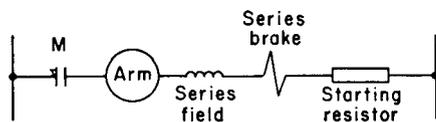
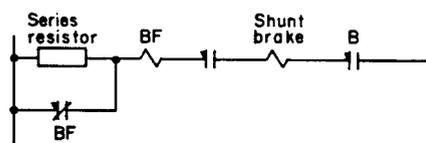

Fig. 6. Connection for series brake
Fig. 9. Forcing connection for fast release
Connect series brakes as shown in Fig. 6.
The connection illustrated in Fig. 6 is one in which the series resistor is always in circuit with the brake coil. A “forcing” connection on the other hand is one in which an additional contactor is used to short out the series resistor during pickup. Such a connection is illustrated by Fig. 9. The normally closed contactor (BF) picks up only after a predetermined value of current (sufficient for pickup) is flowing through the brake coil. After pickup, contactor (BF) opens to place the holding resistor in the circuit.
B. WHEEL-Specify wheel to be bored for (motor shaft extension) (other shaft) having dimensions shown on drawing enclosed. Also see Fig. 6. page 1-11.